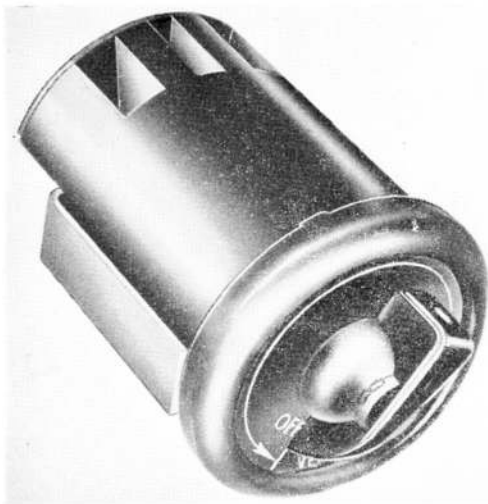

Fig. 1. Time switch, Type PTA/HAW
1. The time switch, Type PTA/HAW (*fig.1*) is a clockwork-driven switch in which the action of setting the pointer winds the spring and starts the timing period of 8 minutes. ◀ It differs from the earlier Type PTA HA (Stores Ref. 5CW/4733), which it supersedes, in having redesigned and more robust stop pins. ▶